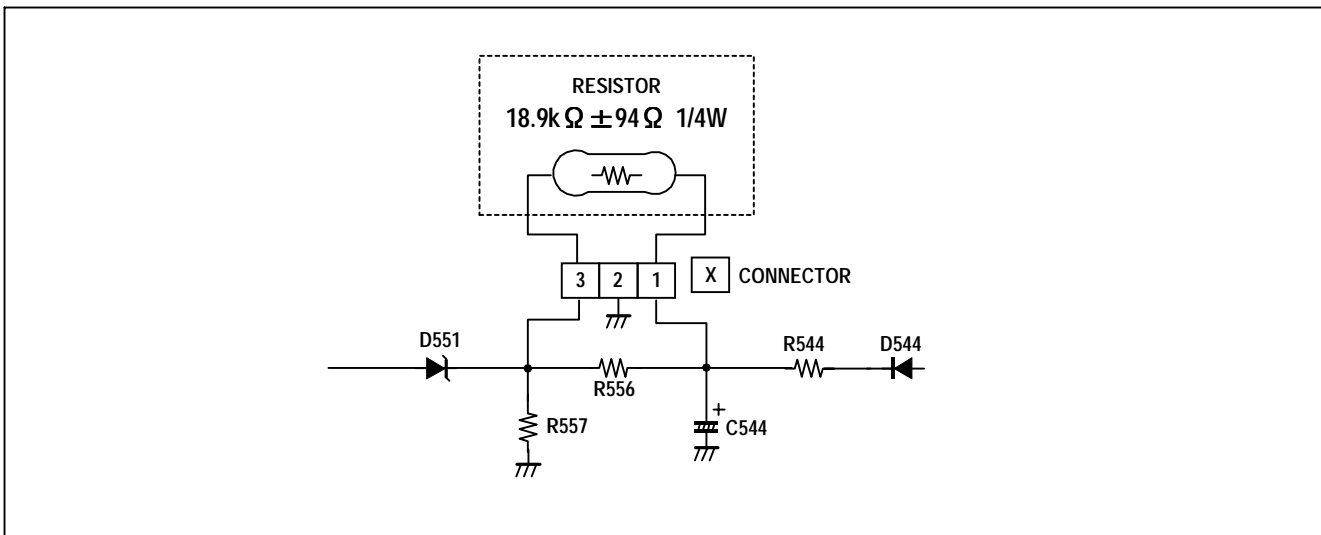

Fig.2
- (1) Turn the POWER SW ON.
- (2) As shown in Fig.2, set the resistor (between [X] connector [1] & [3]).
- (3) Make sure that the screen picture disappears.
- (4) Temporarily unplug the power cord.
- (5) Remove the resistor (between [X] connector [1] & [3]).
- (6) Again plug the power cord, make sure that the normal picture is displayed on the screen.